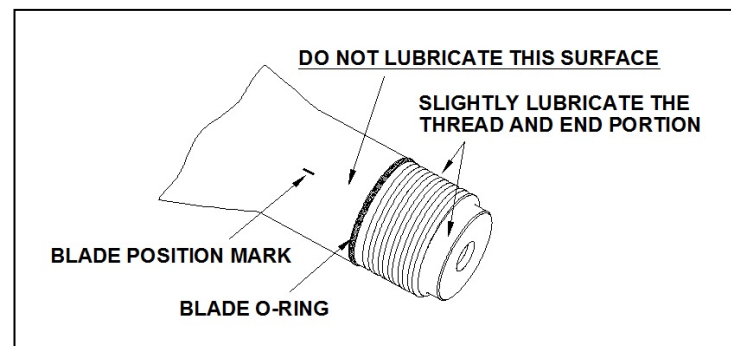

Figure 5-2
(2) Clean the blade shank and inside of the blade bushing from all contaminants.
(3) Make sure that o-ring is installed in the groove in the blade shank (Figure 5-2).
(4) Slightly lubricate the thread and end portion of the blade shank with Aeroshell Grease 5, 6 or 22 (Figure 5-2).